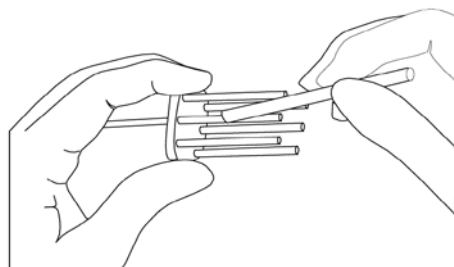

Figure F.1.3c: Re-lubricating 125 - 12.5 μ l Pipettes
- 125 μ l, 30 μ l, 12.5 μ l Pipettes: Spread the lubricant directly onto the pistons, approximately 0.5 inches (approx. 1.3 cm) from the bottom of each piston (see Figure F.1.3c).